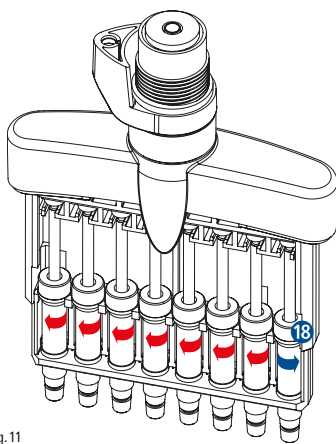

Fig. 11
- The piston unit 18 is released from the piston frame by turning it with the Allen key (Fig. 11).